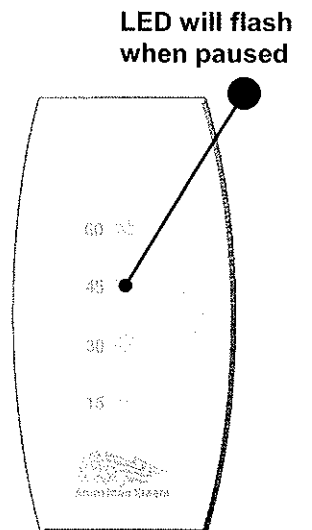

Figure 14
3. **Pause feature.** Press "STEAM" button and hold until LED time light flashes. Release. Light will flash while system is in pause mode. Press "STEAM" button again to restart session. (See Figure 14.)